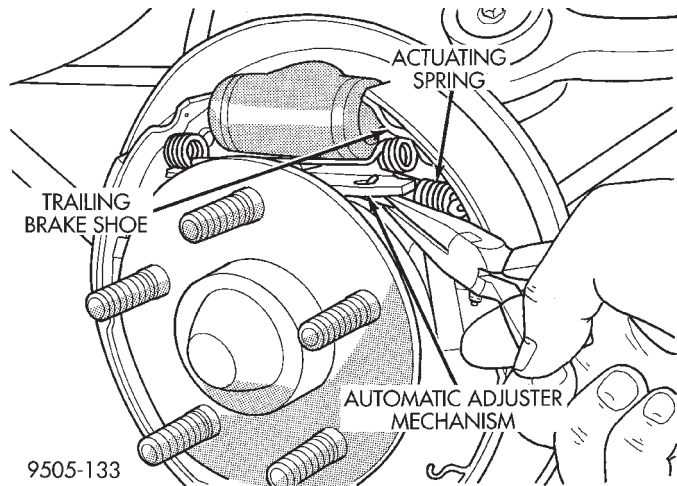

Fig. 108 Adjuster Mechanism Actuating Spring
(6) Remove the actuating spring (Fig. 108) from the automatic adjuster mechanism and the trailing brake shoe.
(9) Install the automatic adjuster actuation spring first on the trailing brake shoe and then hook it onto the adjuster mechanism (Fig. 108).
(10) Install the rear brake drums on the hubs.
(11) Install the wheel and tire assemblies.
(12) Tighten the wheel mounting stud nuts in proper sequence until all nuts are torqued to half specification. Then repeat the tightening sequence to the full specified torque of 129 N·m (95 ft. lbs.).
(13) Lower vehicle
(14) Adjust rear brake shoes. **Brake shoes will adjust by fully depressing the brake pedal 2 to 3 times. Brake shoes should now be correctly adjusted and will not require any type of manual adjustment.**
(15) Road test vehicle.